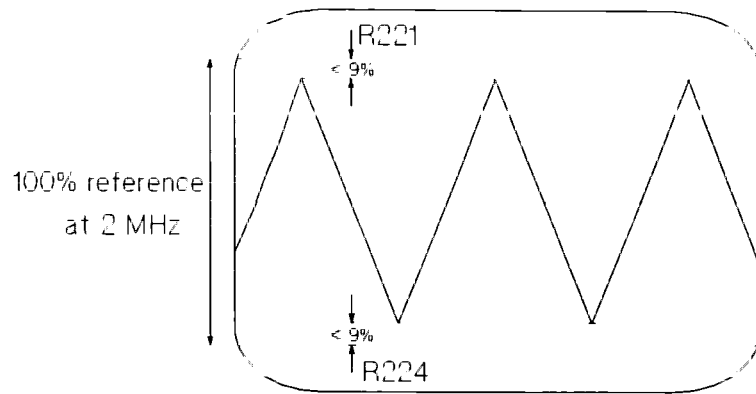

Figure 9-1. HF symmetry adjustment
38. Adjust A1R221 and A1R224 to achieve a symmetrical output signal, as shown in Figure 9-1, and a measured frequency of 50.0 MHz $\pm$ 1.0 MHz. (You will have to connect the HP 8116A's trigger output to the counter to measure the frequency).